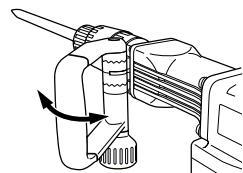
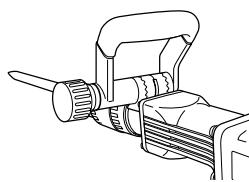
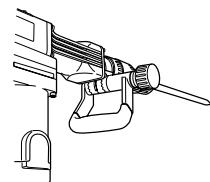

Fig. 7
Fig. 8
Fig. 9
- (2) Adjust it to a position where vertical (up-and-down) operation can be facilitated as illustrated in Fig. 7, Fig. 8, and Fig. 9.
- (3) Turn the grip in the direction of **B** and fix the handle.